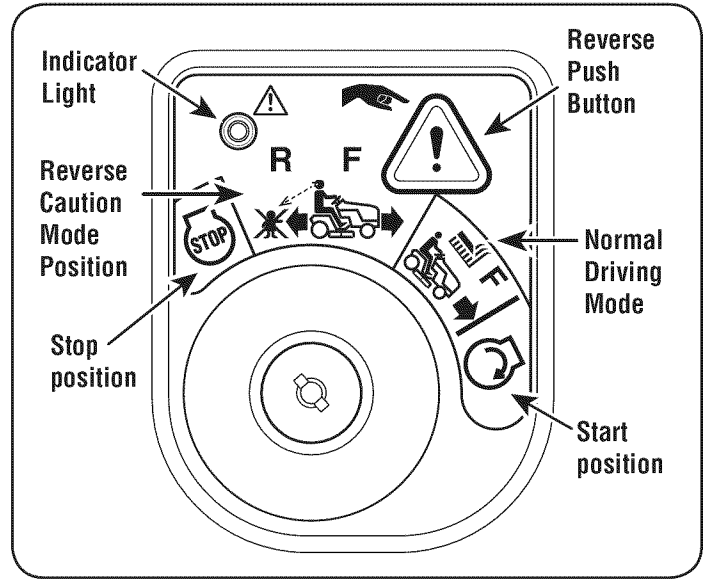

Figure 10
2. Turn the key from the NORMAL MOWING (Green) position to the REVERSE CAUTION MODE (Yellow) position of the key switch module. See Figure 10.
3. Press the REVERSE PUSH BUTTON (Orange, Triangular Button) at the top, right corner of the key switch module. The red indicator light at the top, left corner of the key switch module will be ON while activated. See Figure 10.